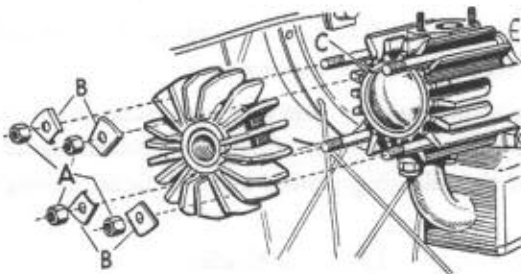

Fig. W6. Head off with piston at t.d.c.
Remove the ignition lead and sparking plug, undo the four cylinder head retaining nuts (A. Fig. W6) and remove the saddle washers (B). The cylinder head can then be lifted clear of the barrel. Rotate the engine until the piston is at the top of its stroke and using a suitable